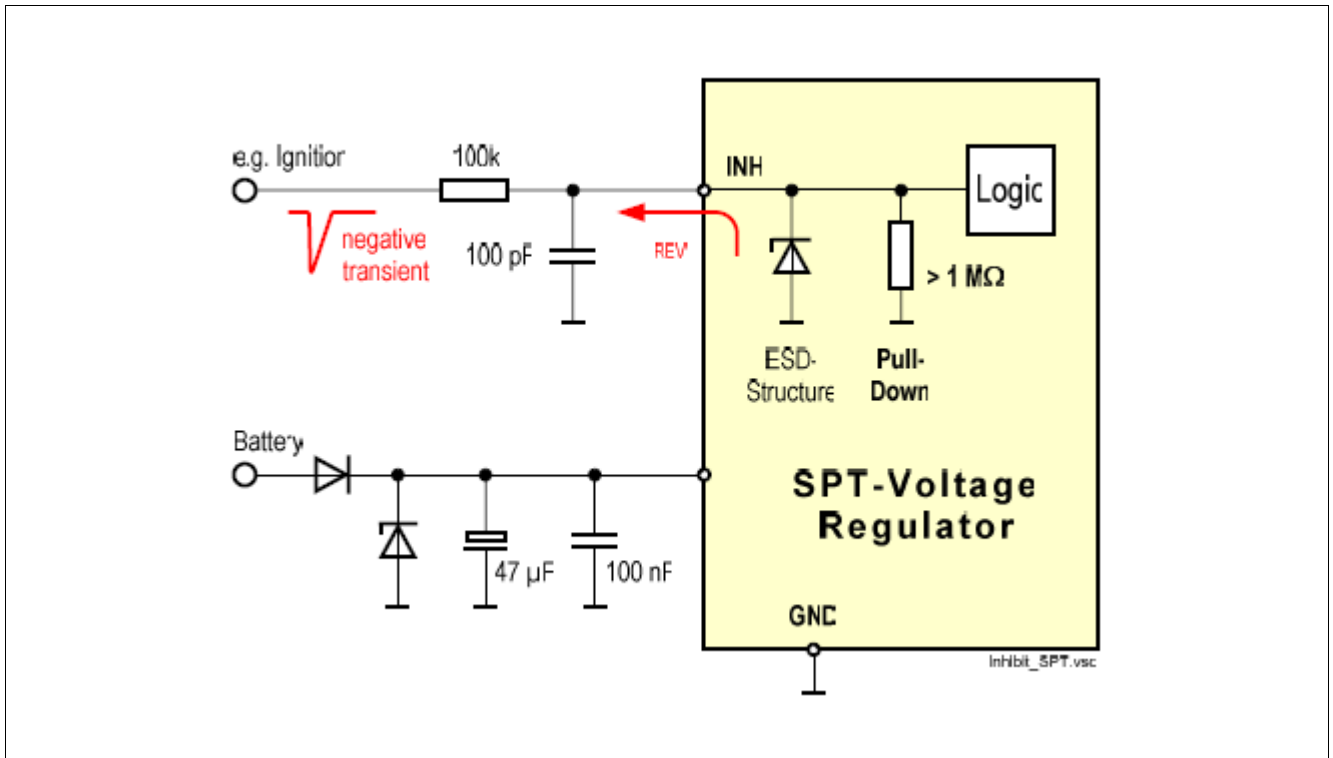

Figure 5 Negative transients at inhibit pin of an NMOS voltage regulator
Also, at the inhibit (INH) input, respectively enable (EN) input, a negative voltage must not be applied. However, in order to allow negative transients, a high-ohmic resistor can be added in series to protect the input structure (see Figure 5). The maximum negative current must not exceed 0.5 mA.